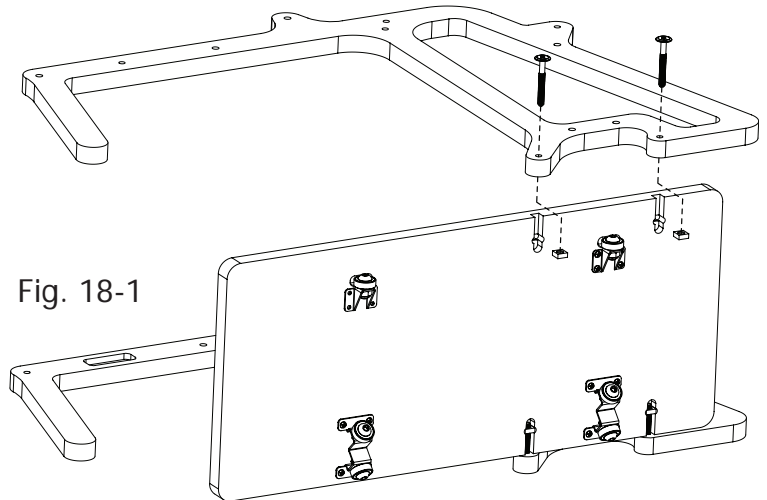

Fig. 18-1
Step 14-1: Attach each of the wheels to the bottom plate using the provided wood screws, as shown in Fig. 18-1.
Step 18-3: Thread the M6 X 50mm connector bolts in the handles into the M6 square nuts located in the slots in the top plate as shown in Fig 18-1.